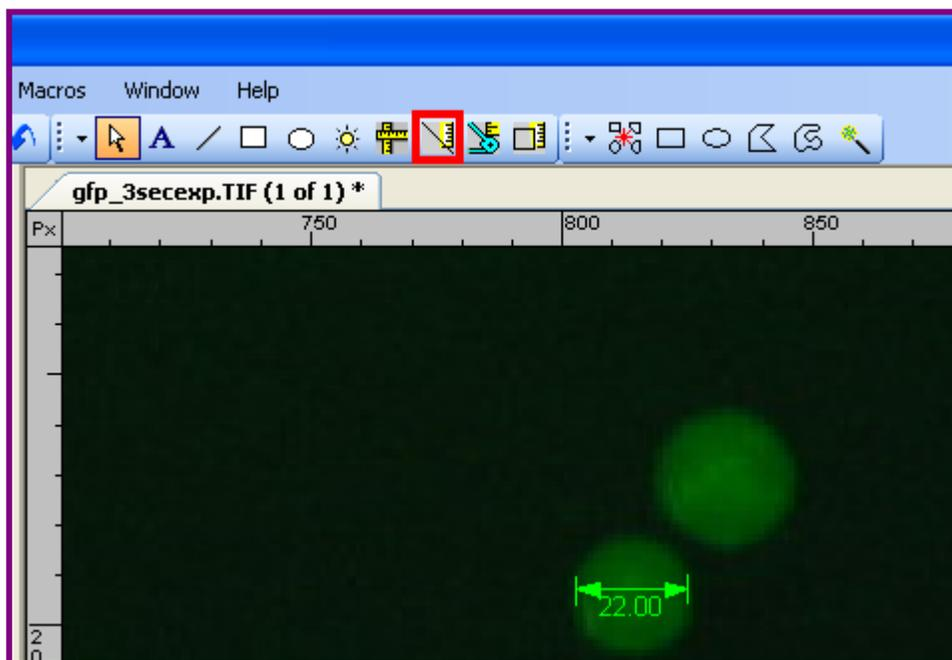

Fig. 4 – Measure Length
Using the “Measure Length” tool, it is possible to measure the length of a particular feature within an image. To measure the length of a specific feature (Fig. 4):
- Click the “Measure Length” button in the “Annotations” toolbar (shown in the red area in Fig. 4).